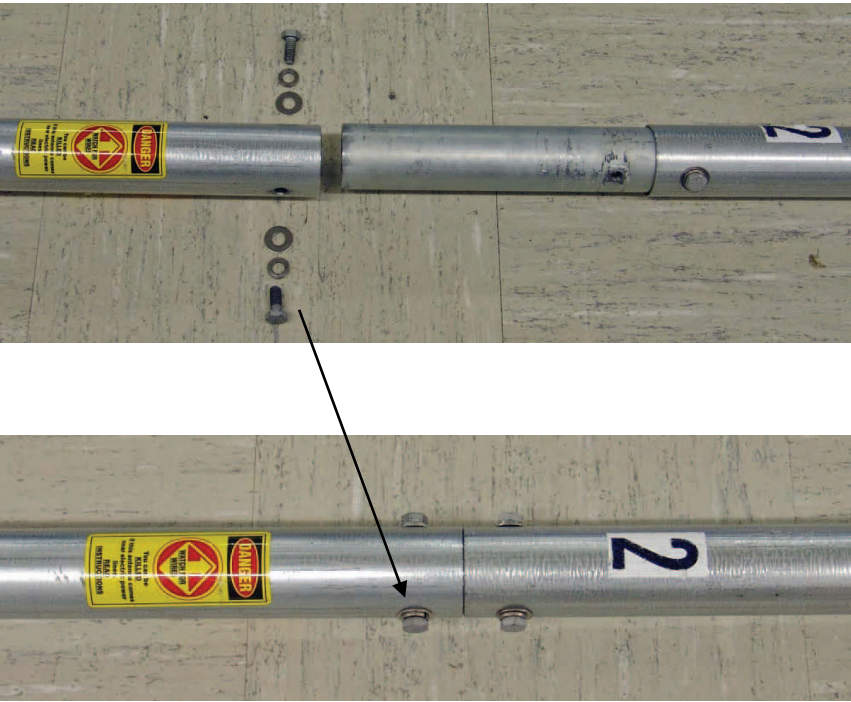

FIGURE 3-6. Coupler installed in top of mast Section 1
Step 4: Insert the Section 2 coupler into the top of Section 1 (see FIGURE 3-6).